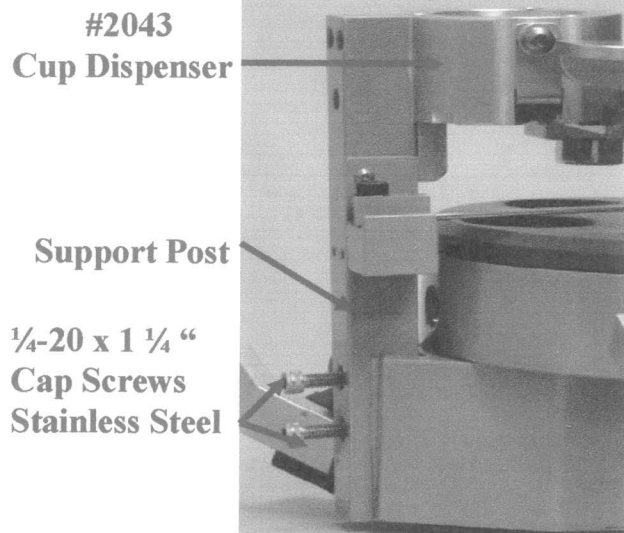

Fig. 6- Removal of Cup Dispenser
The entire cup dispenser can be removed by unscrewing the two (2) socket head cap screws at the base of the post (see Fig. 6). This is desirable for cleaning. It may be necessary to remove the two (2) 10-32 button head screws that hold on the cup sensor for heavy cleaning. Generally, you can just swing the cup loader to the side with the sensor still in place.
1. The (2) two square head 5/16-18 brake screws are located in the table casting and are visible if the turntable is removed
2. The (2) two brake screws control the drag/tension of the turntable and there must be drag on the turntable at all times.
4. To adjust these (2) two brake screws the cup dispenser with the support post must be removed. (refer to section 4, pg 11, fig.6 in the operators & machine maintenance section of the manual ... VERY IMPORTANT ... read CAUTION directly below fig. 6 before removing.
5. To increase tension turn the (2) two brake adjust screws clockwise...